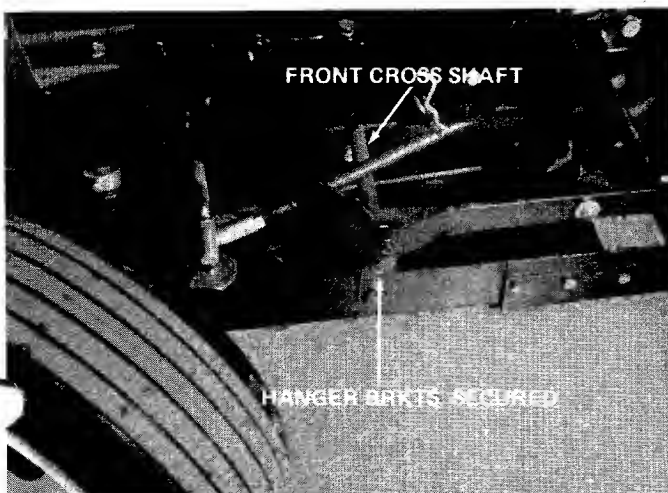

FIGURE 22
8. Lower tractor under carriage and install hanging brackets to front cross shaft. See figure 22. Put clevis pin through small hole on hanging brackets to secure brackets around cross shaft. Insert hair pin into hole in clevis pin, to hold pin in position.